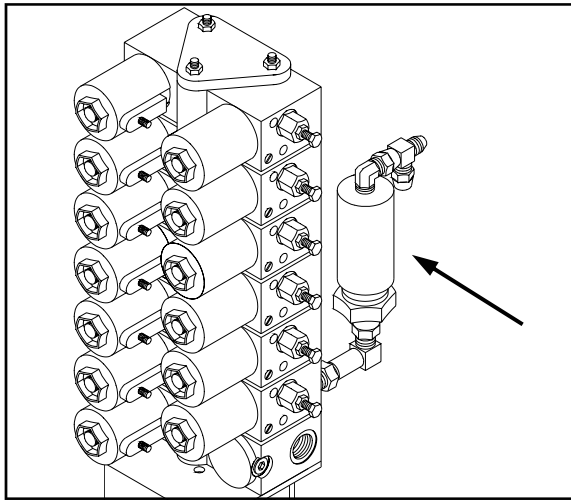
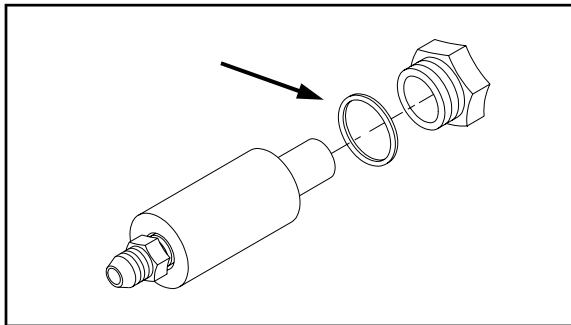

FIG 7.26
FIG 7.27
**STACK VALVES** - The valves on the lift control stack valve are protected by a 90 Micron in-line sintered bronze filter (fig. 7.26). When the filter element is removed for cleaning, caution should be taken so the gasket is in the proper place when re-installing (fig. 7.27). Also, re-install filter paying attention to direction of flow so the end marked "OUT" is oriented correctly.